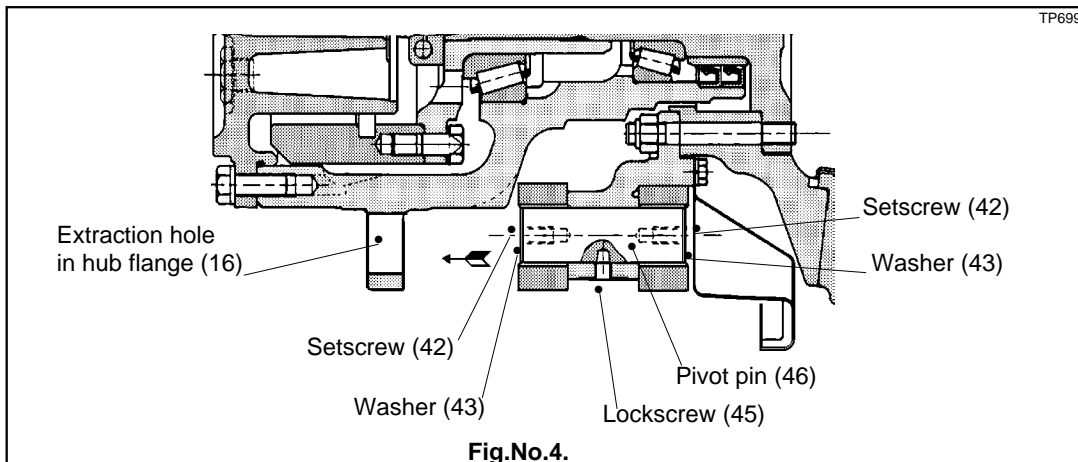

Fig.No.4.
- 6.4 Turn hub until pivot pin extractor hole in hub flange (16) is in line with one of the pivot pins (46) then remove pin outwards through extraction hole. See fig. no. 4.